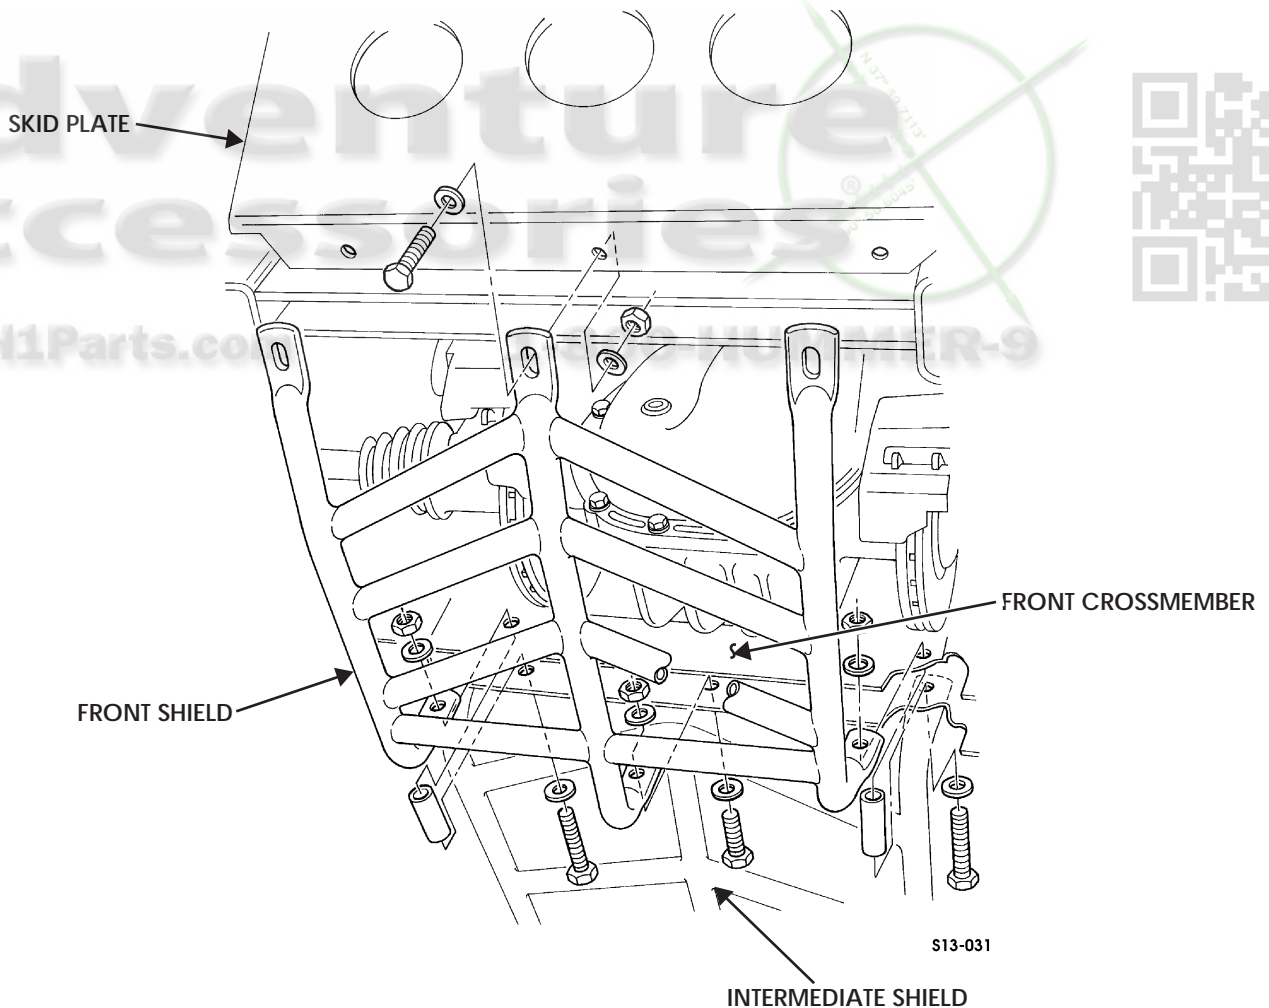

Figure 13-34: Front Shield
1. Remove three locknuts, washers, capscrews, washers, and two spacers securing front shield to front crossmember and intermediate shield. Discard locknuts (Figure 13-34).
1. Install front shield on skid plate with three washers, capscrews, washers, and locknuts. Do not tighten locknuts (Figure 13-34).